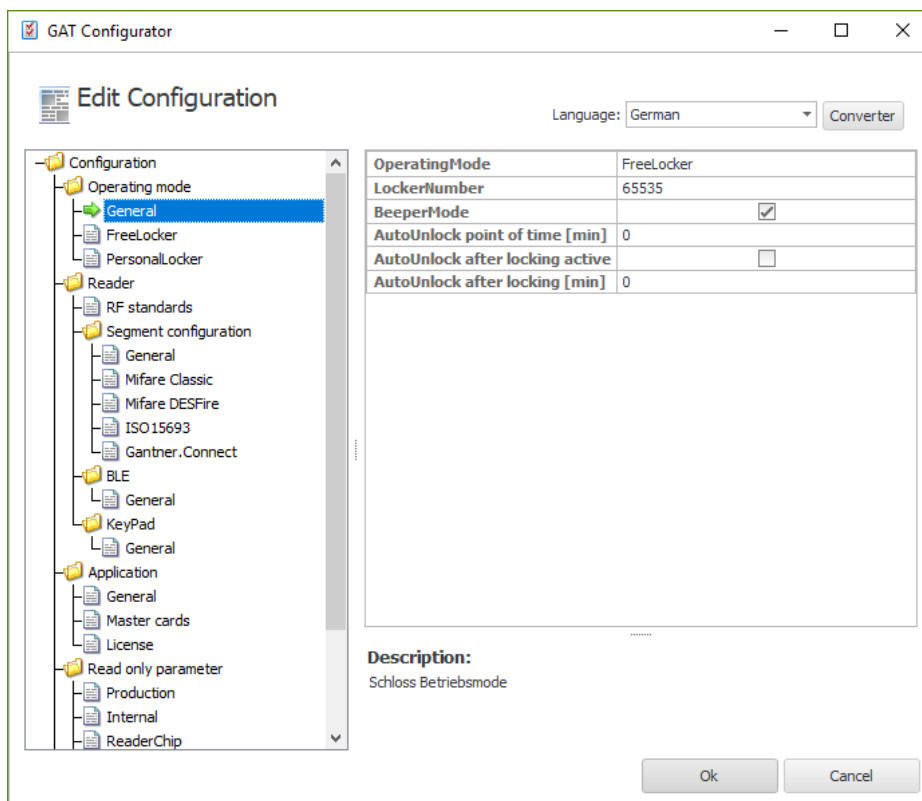

Figure 5.5 – “GAT Configurator” configuration window
- The “GAT Configurator” window opens (Figure 5.5).
- ▶ Click on "OK" in the GAT Configurator window (Figure 5.5).